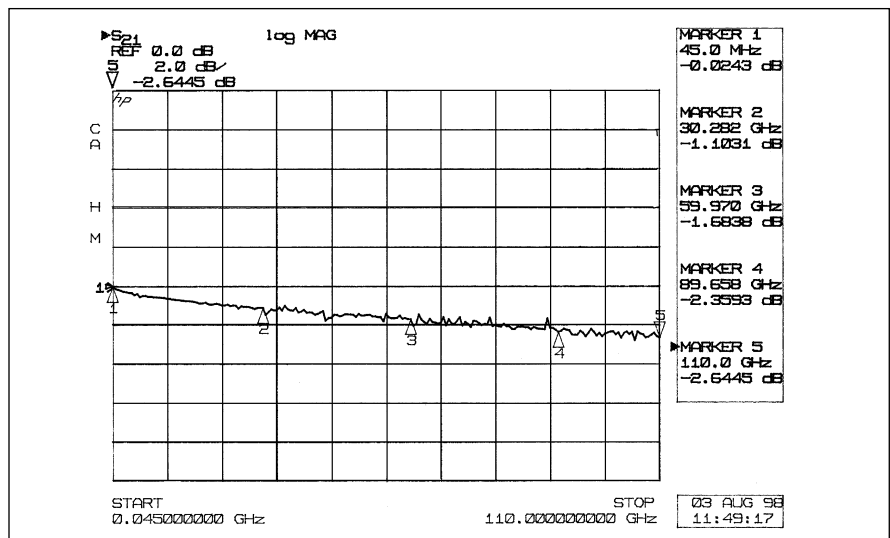
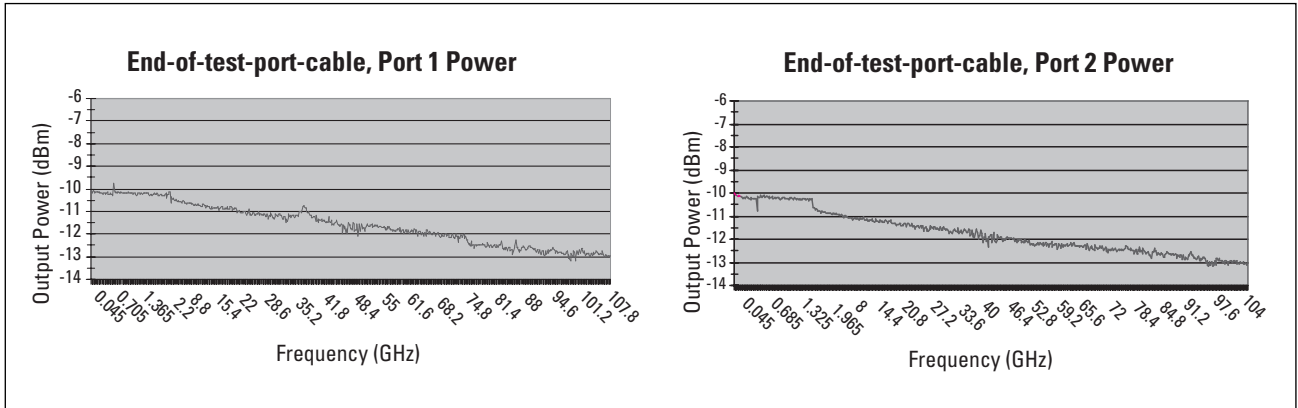

Figure A1. Insertion loss (versus frequency) of a typical HP 11500J 1.0 mm test port cable.
Figure A2. Output power at the end of the test port cable versus frequency. Power was set at -10 dBm. The test port cable used was an HP 11500J
2. Insertion loss (S_{21}) of a test port cable was characterized (see Figure A1). In this case, the test port cable is the DUT.
3. Power (vs. frequency) at the end of the test port cable was examined (see Figure A2).
Figure A2 shows output power versus frequency at the end of the test port cable as connected to the test port of the HP 8510XF system. The power setting was -10 dBm. Since power at the test port is leveled, the slope shown in Figure A2 is mainly due to the insertion loss of the test port cable. Notice that the trace resembles that of Figure A1. By approximating the trace as a straight line, the insertion loss of the cable can be compensated by applying power slope¹.
Since the insertion loss of cables is typically linear with frequency (as shown in Figure A1), a best-fit line can be used to estimate the slope of the line. The slope of the line in Figure A1 is approximately -3 dB/110 GHz (equivalent to -0.027 dB/GHz). To compensate for the insertion loss of the cable shown in Figure A1, the power slope value would be $+0.027$ dB/GHz. To enable power slope, follow this key sequence: STIMULUS [MENU] {POWER MENU} {SLOPE ON} power_slope_value [x1]. (In this case, power_slope_value would be 0.027.)